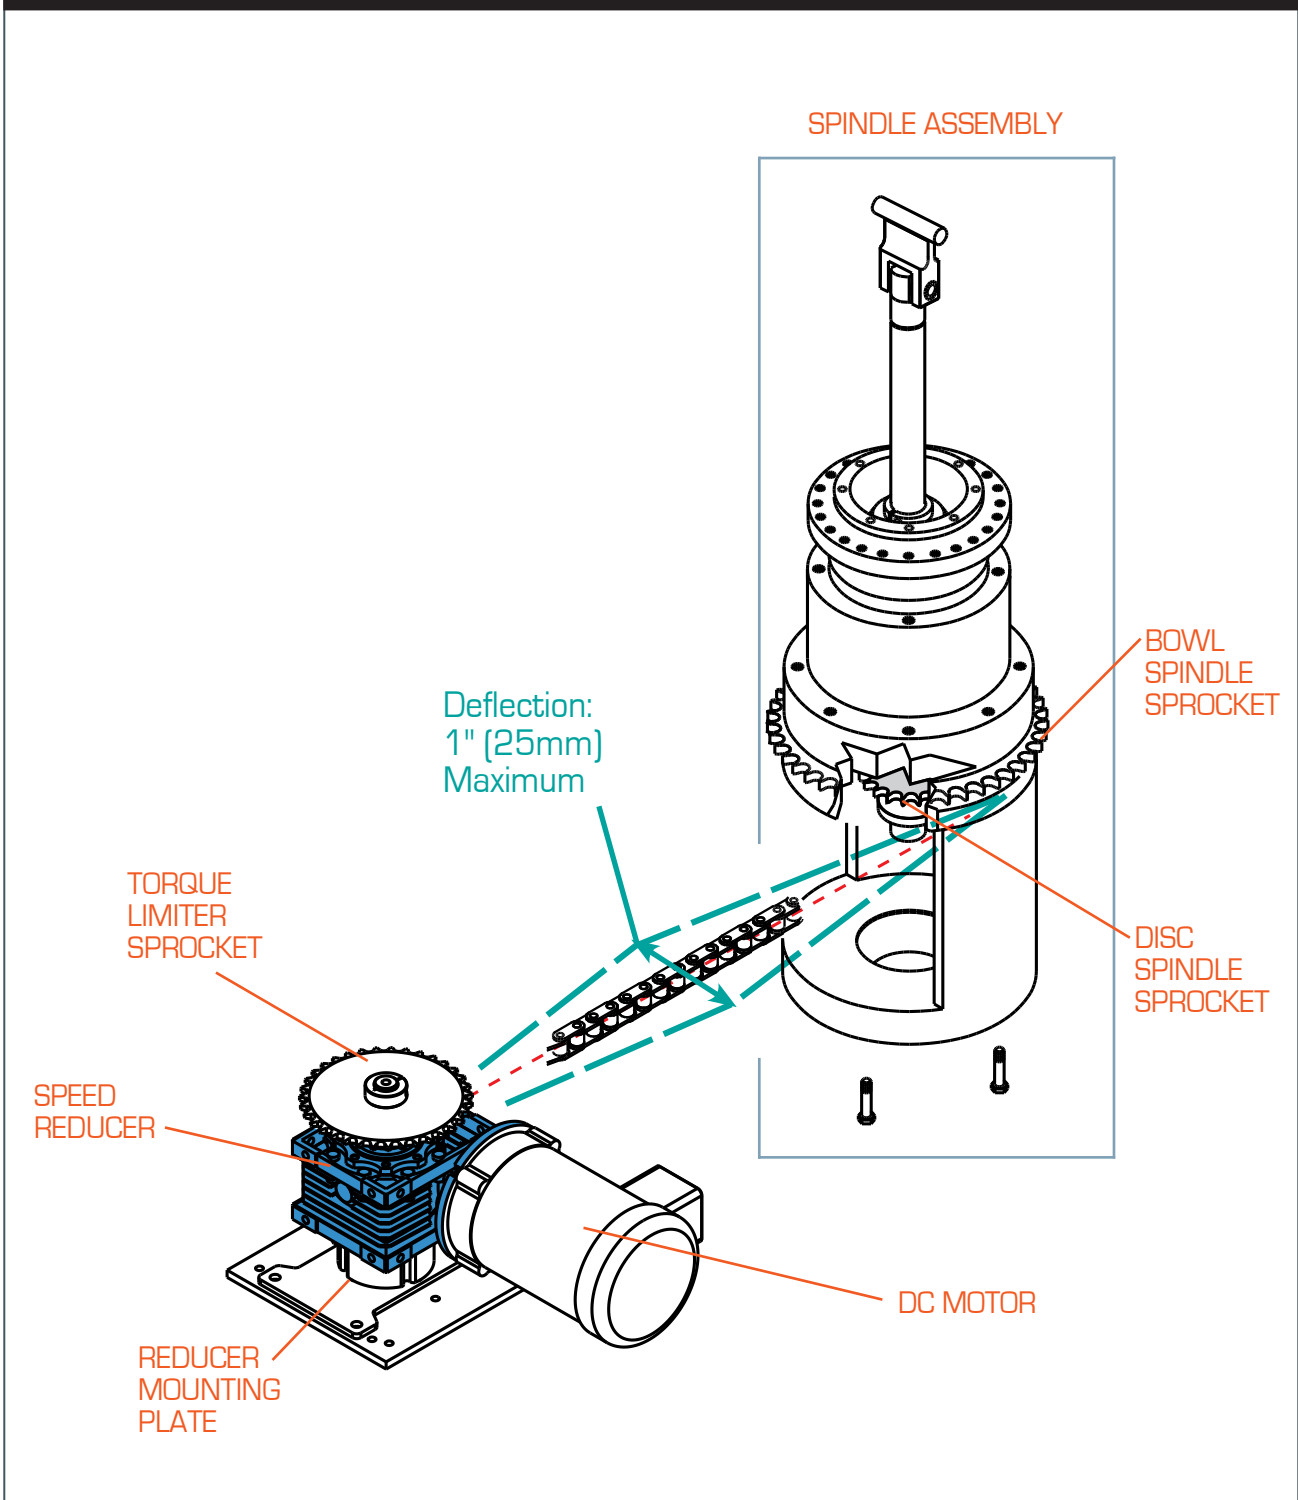

Figure 4-3. Bowl Drive Chain Tension -Typical DC Motor
Step 2—Inspect Drive Chain. Midway between the sprockets, grasp the chain and move it back and forth. You should not be able to move it more than 1" in either direction. If it moves more than 1", adjustment is required (see Figure 4-3.) If an adjustment is needed:
Step 7—Replace Chain & Covers. Install bowl drive chain. Inspect chain tension (refer to Figure 4-3). Replace covers and reconnect power and air.